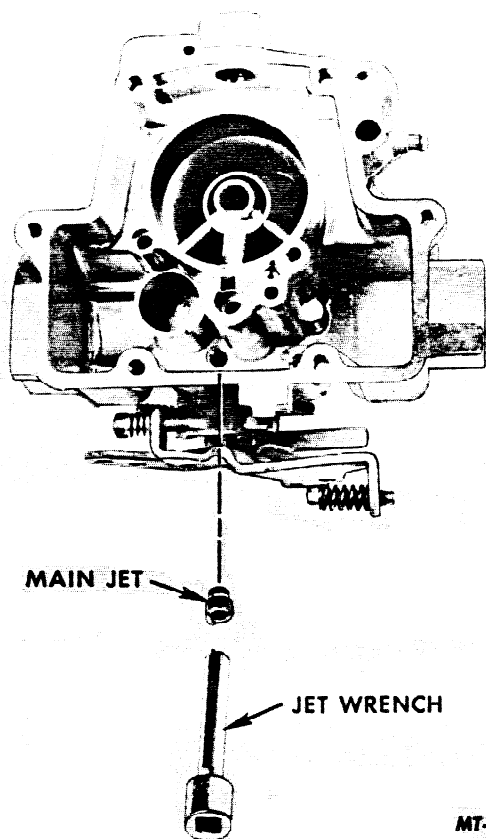

FIG. 26 Remove or Install Main Jet
3. Remove the main jet with a jet wrench. A 3/8" wide square point screwdriver may be used (Figure 26).